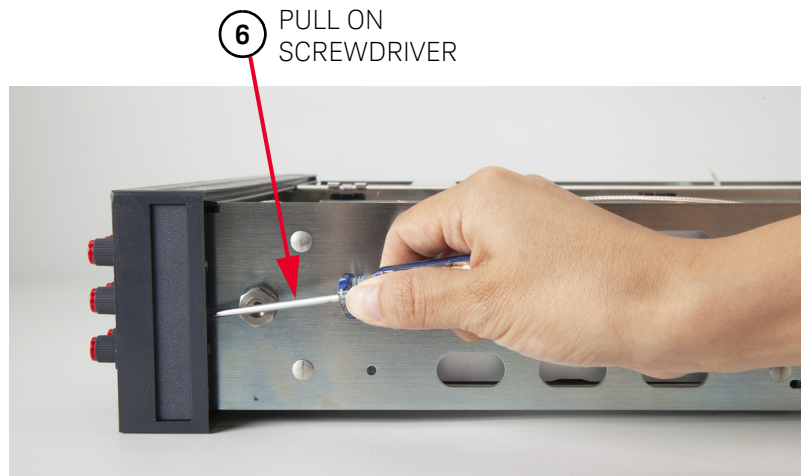

Figure 3-18 Remove front panel assembly
- 7 Refer to Figure 3-18. Insert a large screwdriver between the Front Panel assembly and the chassis, as shown in the figure. With the screwdriver, carefully pry the left side of the Front Panel assembly loose. Move the front panel out of the chassis until it unlocks from the chassis. Do not move it any more, or it may break.